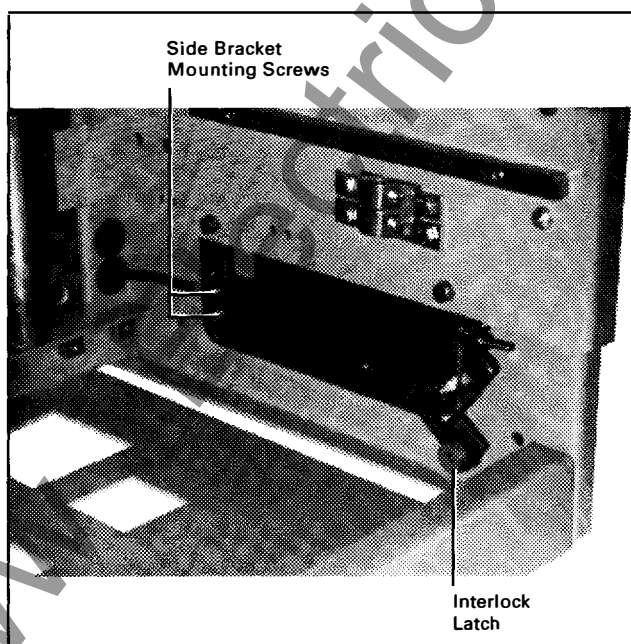

Fig. 19. Extension plate mounted in a 3000A cassette
8.3.17 Mount the extension plate to the side rail assembly of the cassette with two .25-20X.75 hex bolts and lock washers. The extension plate mounts between the side rail assembly and the side sheet of the cassette as shown in Fig. 19.
9.1.13 Mount the extension plate to the side rail assembly of the cassette with two .25-20X.75 hex bolts and lock washers. The extension plate mounts between the side rail assembly and the side sheet of the cassette as shown in Fig. 19.